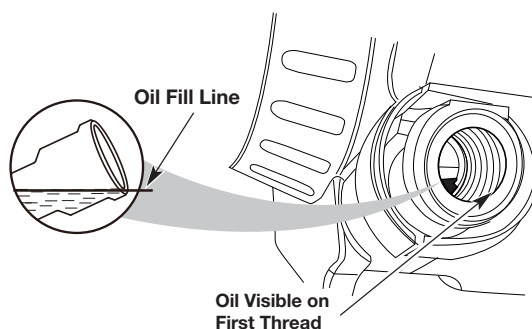

Fig. 10
5. Look into the oil fill hole; use a flashlight if necessary. **Add oil to the oil fill hole until the oil level is visible on the first thread of the oil reservoir** (Fig. 10). If the oil level is too low, add oil to the oil fill hole until the oil level touches the bottom thread of the oil fill hole.